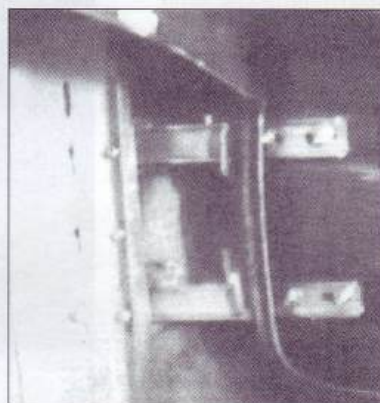

Fig.2b. Hinge fitted to chassis
1. Bolt the two door hinges to the chassis using four M8 nuts and bolts per hinge as shown in fig.2b but space the hinge away from the chassis by using an M10 plain nut on each bolt as the spacer.